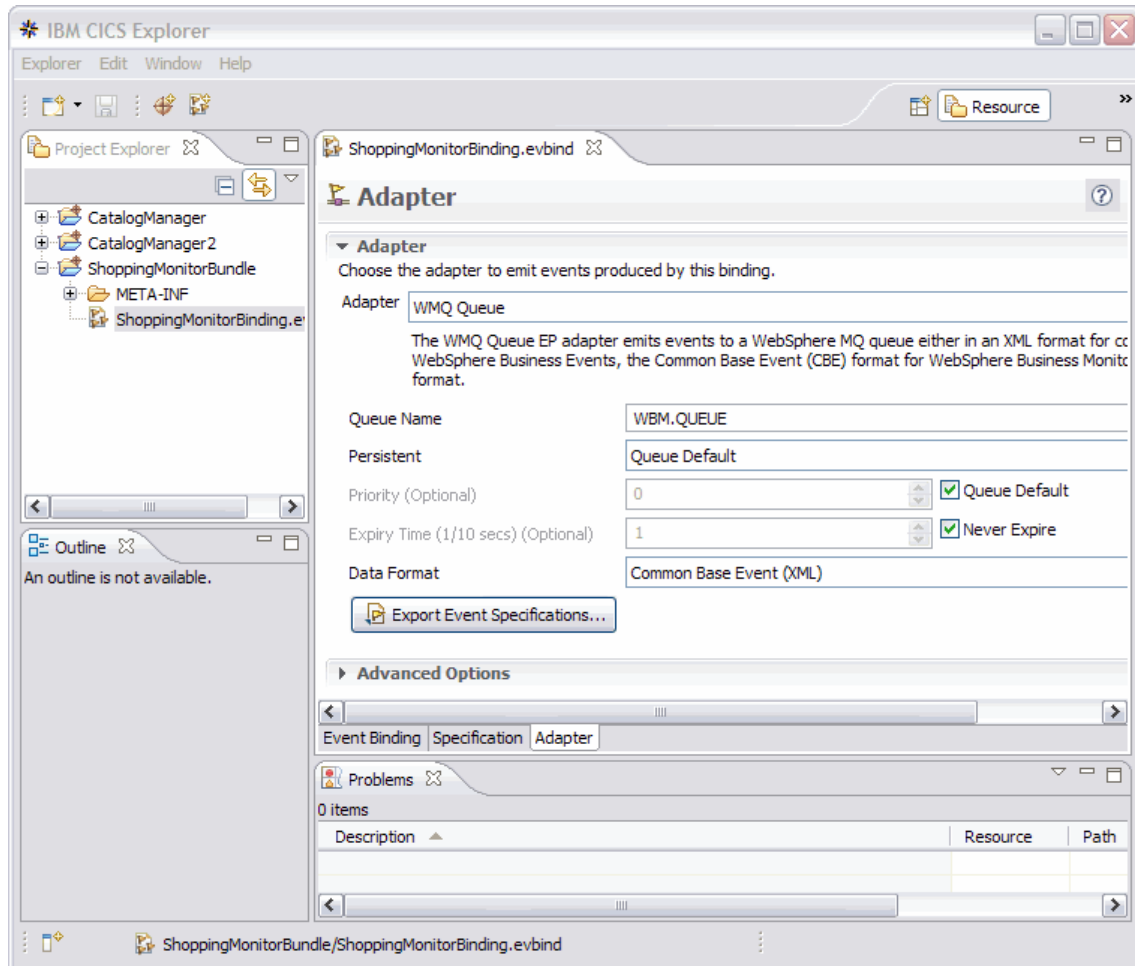

Figure 9-9 Export schemas for monitoring model
1. In the Project Explorer window of the Resource perspective in the CICS Explorer, expand the ShoppingMonitorBundle project and double-click ShoppingMonitorBinding to open it. See Figure 9-9 on page 324.